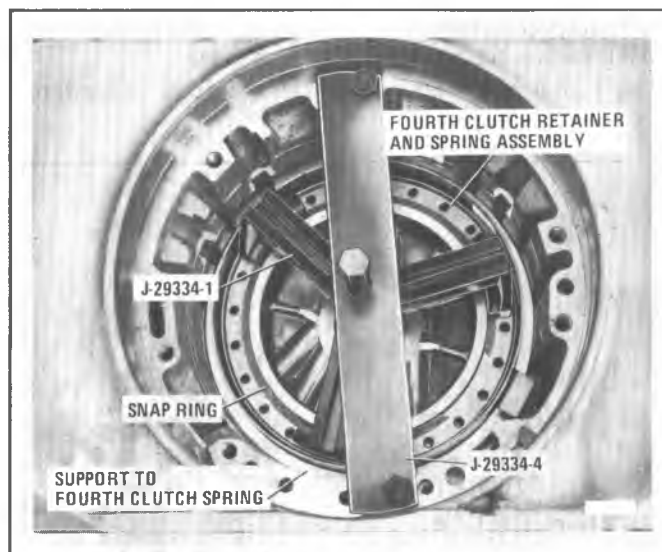

Figure 7A6-166 Installing Tools on Fourth Clutch Spring Assembly and Case
2. Install fourth clutch piston, aligning piston tab with wide case spline (Figure 7A6-165).